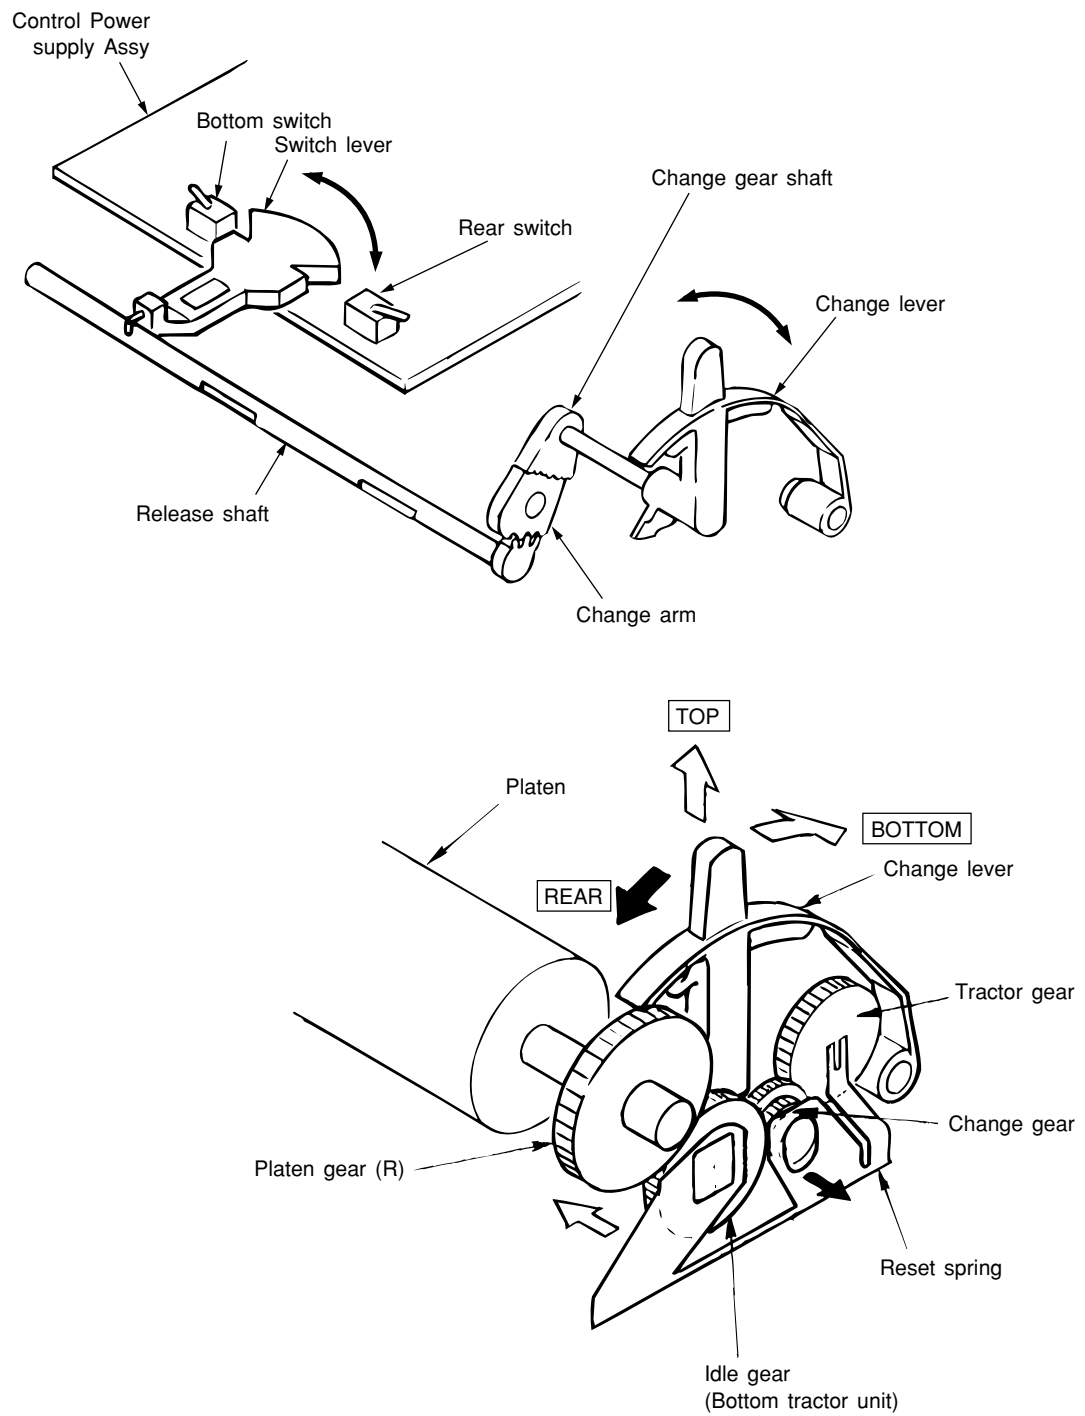

Figure 2-8
(1) Cut sheet and continuous sheet switching mechanism (See Figure 2-8.)